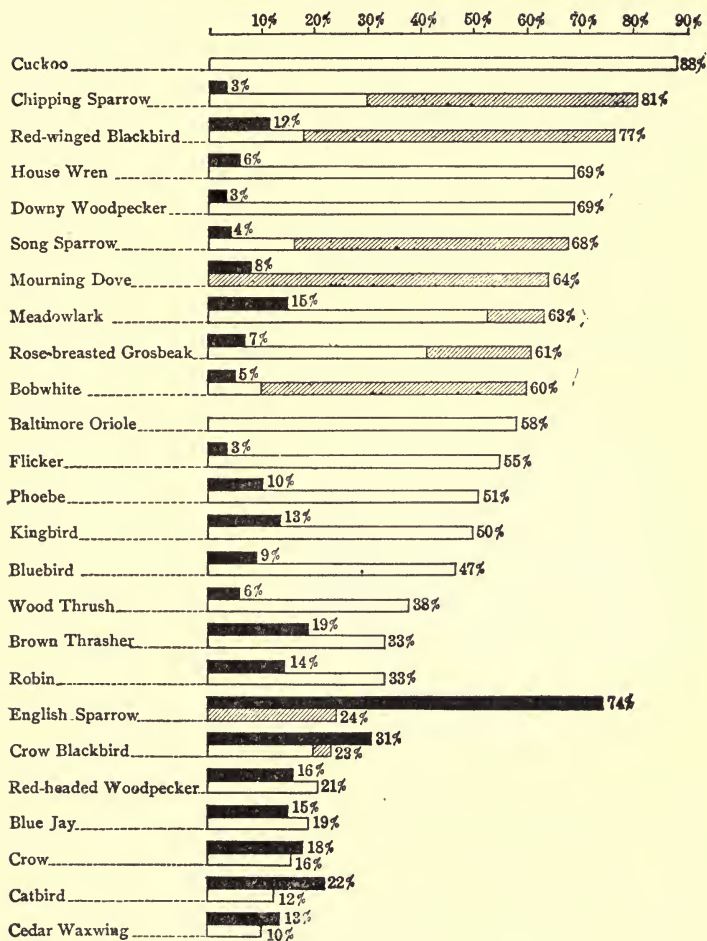

FIG. 183. — Food Chart of 25 Common Birds.
12. Arrange the birds according to the ratio between the good and harm done. Place the cuckoo and oriole at the head of the list. For the others divide the percentage of good done by the percentage of harm done. For example, for the chipping sparrow divide 81 by 3 (27). Do the same with the others and arrange them in order, the bird with the largest number first. Which five birds stand first in the list? Which five last?
13. (Optional.) If you wish you may make a chart from this table similar to the one in Figure 183. This chart is to represent the ratio between the good and harm done. Let one inch represent 5. Then for the chipping sparrow draw a line  $5\frac{2}{3}$  ( $\frac{27}{5}$ ) inches long. In a similar way draw lines for the other birds, arranging them in the order of the length of the line, the longest first. Make the lines for the cuckoo and oriole two inches and one inch, respectively, longer than that for the chipping sparrow.